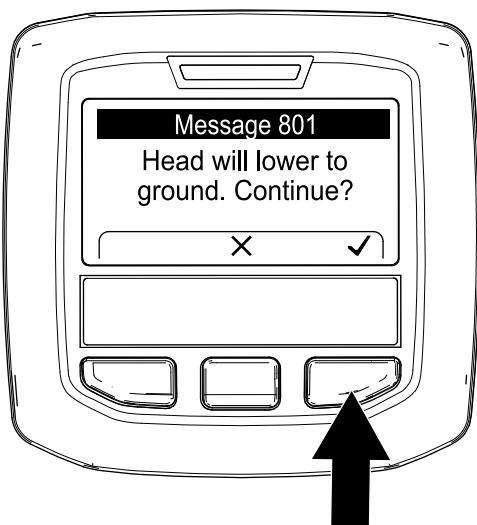

Figure 115
4. On the Head Will Lower screen (Figure 115), press the right InfoCenter button.